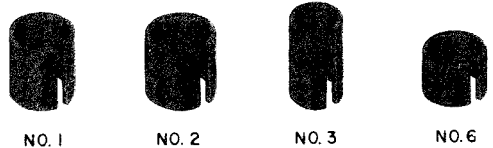

Fig. 10 — Binding Post Insulators
- 4.05** Binding post insulators are open-ended fibre insulators for use on binding posts to prevent accidental contacts. These insulators are designated No. 1, 2, 3, and 6, and are shown in Fig. 10. Binding post insulators have a red enamel finish, for use on SSM and SSP circuits and natural for other uses.
- No. 1 insulators, Fig. 10, are for use on binding posts having $\frac{3}{8}$ -inch hexagonal nuts, and on 7T fuses.
- No. 2 insulators, Fig. 10, are for use on binding posts having 7/16-inch hexagonal nuts, and on 7A fuses.
- No. 3 insulators, Fig. 10, fit the screw binding posts of BD, BE and BF cable terminals.
- No. 6 insulators, Fig. 10, are for use on terminations of the alarm and contactor circuits in T pressure contactor-terminals and 3-pair gas-tight terminals.